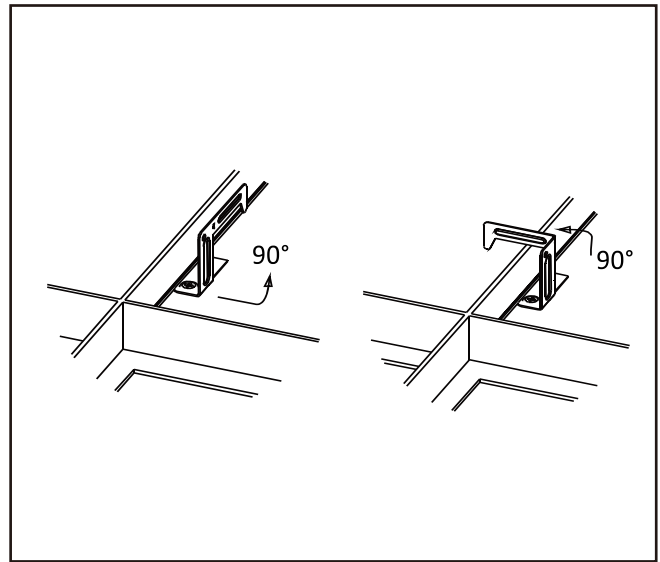

Figure 3.
6. Grid clips are provided for additional retention to ceiling system. Orient 4 tabs on back of fixture over T-GRID by bending tabs up 90 degrees perpendicular to back of fixture. Bend screw tabs 90 degrees from grid clip and then 90 degrees toward T-GRID frame. For additional securement, drive a self drilling screw (not provided) through the screw tab and into the T-GRID (Fig. 3).